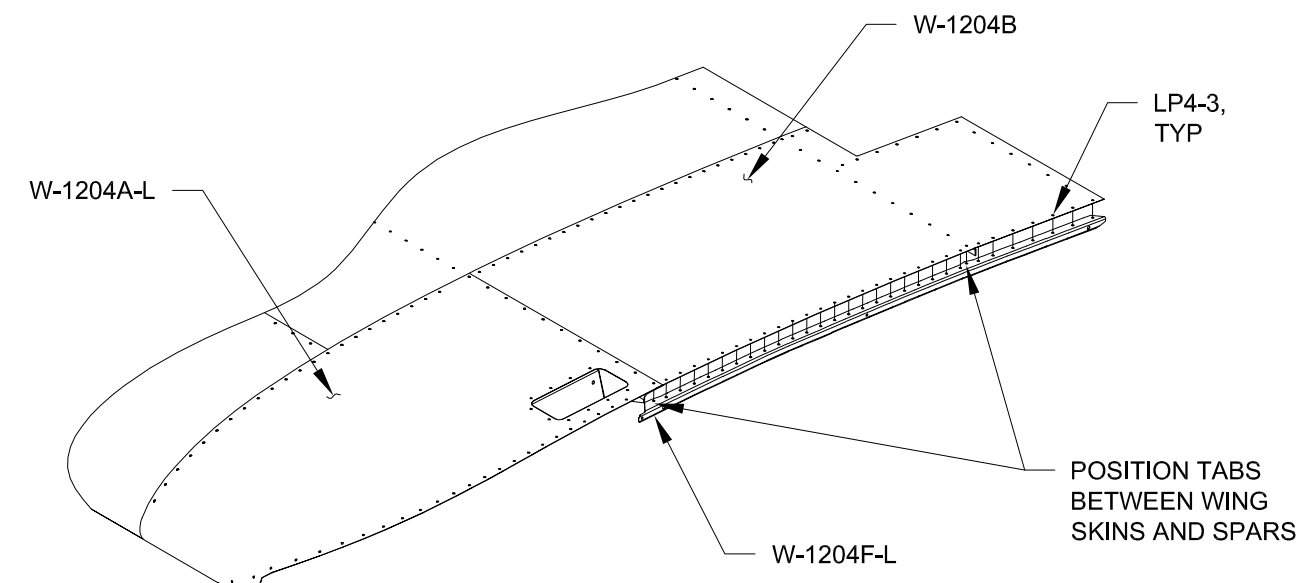

FIGURE 4: ATTACHING THE AFT WING TIP RIB
Step 5: Rivet the W-1204F-L Aft Wing Tip Rib to the W-1204A-L Wing Tip Fwd Skin and W-1204B Wing Tip Aft Skin as shown in Figure 4. The tip of the Rear Spar Assembly may be trimmed to ease fitting between the flanges of the Aft Wing Tip Rib.